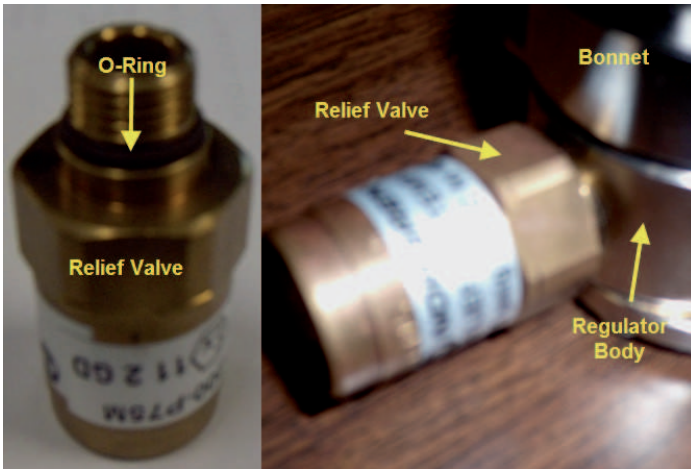

Figure 82 - Fit the Relief Valve to the Regulator
13. Fit the relief valve to the regulator body (Figure 82). Ensure that an O-ring is fitted on the relief valve.